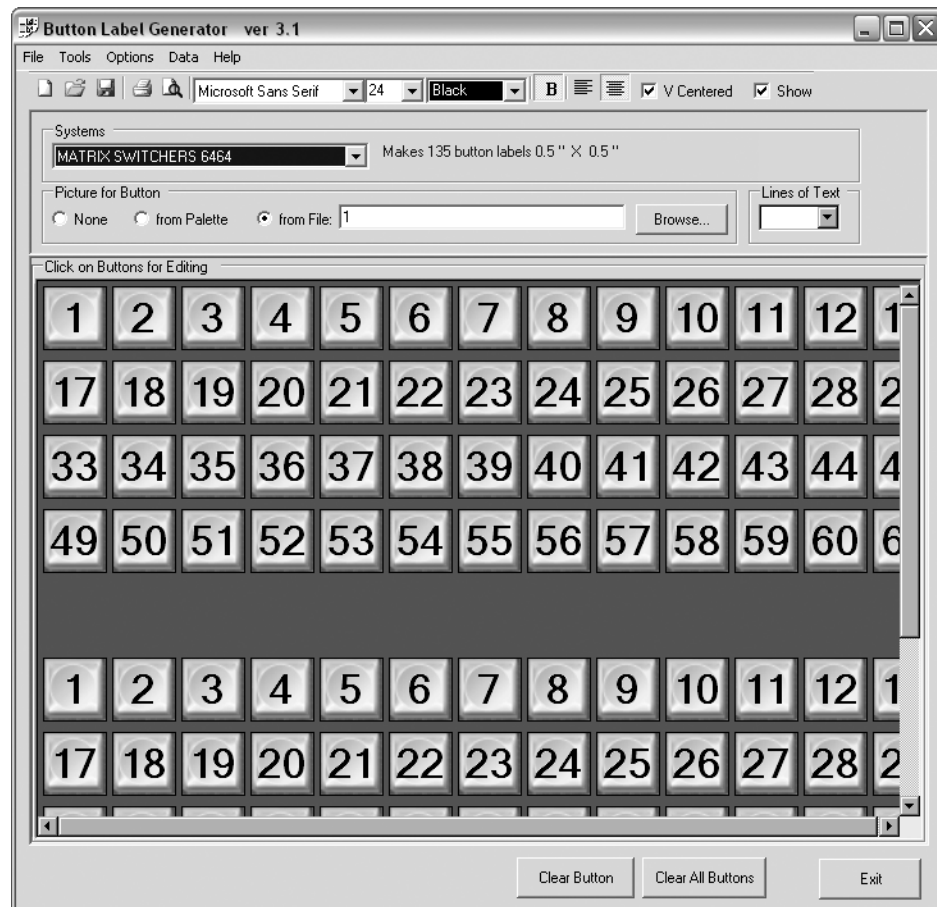

Figure 5-20 — Button Label Generator window
1. To run the Button Label Generator program, click **Start > Programs > Extron Electronics > Button Label Generator > Button Label Generator**. The Button Label Generator window appears (figure 5-20).